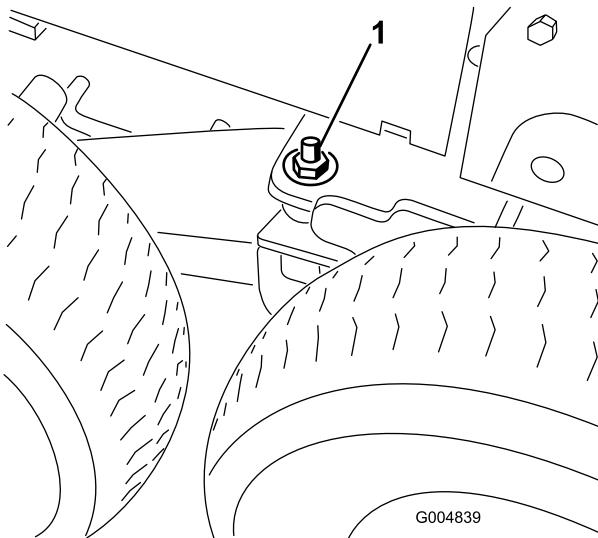

Figure 53
15. Remove the flat washer (1/2 inch) and nut (1/2 inch) installed on the stud on each bogie pivot (Figure 53).